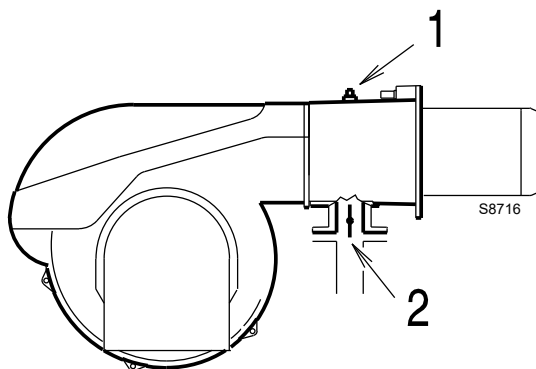

Fig. 24
Gas pressure measured at test point 1)(Fig. 24), with:
Pressure loss at gas butterfly valve 2)(Fig. 24) with maximum opening: 90°.
- subtract the combustion chamber pressure from the gas pressure measured at test point 1)(Fig. 24).
Gas pressure at test point 1)(Fig. 24) = 8.0 mbar
To calculate the required gas pressure at test point 1)(Fig. 24), set the maximum modulating output required from the burner operation:
- read, on the right (column 1), the pressure at the test point 1) (Fig. 24).
pressure required at test point 1)(Fig. 24).